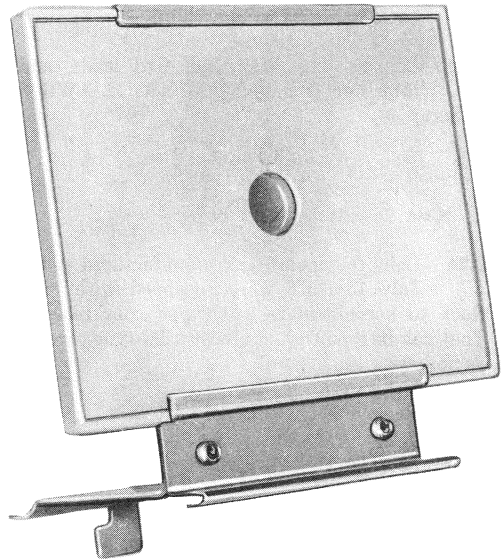

Fig. 22—11A Card Holder
**3.28** The 11A card holder (Fig. 22) is available as an auxiliary customer card frame which can be installed on 1-type coin telephone sets when they are mounted on 178A backboards.